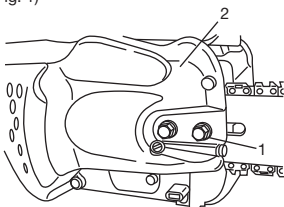

Fig. 1
1. Remove chain bar clamp nuts (1).
2. Remove the side case (2) as pinching the rear part of the side case (2) .(Fig. 1)
6. Install the side case (2) onto the guide bar clamp bolts on the engine case.
- Then fix the clamp nuts temporarily. (Fig. 1)